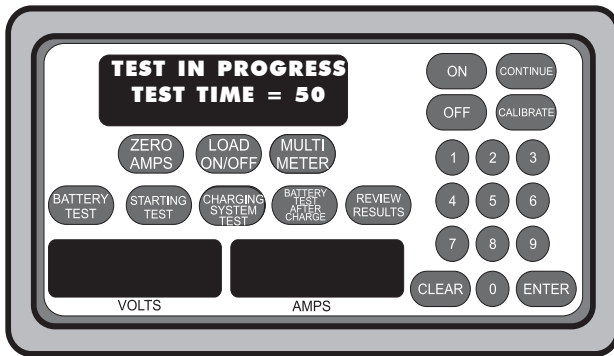

Figure 8
- D. The display now reads TEST IN PROGRESS (see Figure 8).